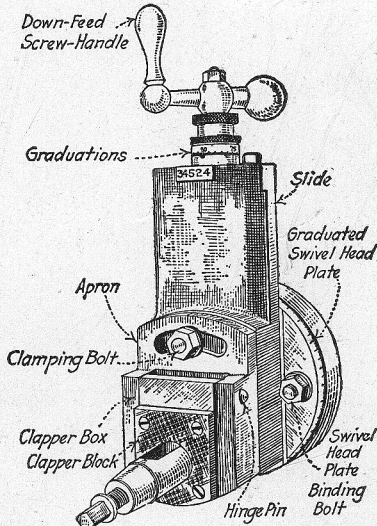

Fig. 1-15. A shaper tool head.
**Tool Head: Vertical and Angular Downfeed.** The toolhead (Fig. 1-15) is designed to hold the tool and also to be used in adjusting the tool for the desired cut. A graduated collar on the downfeed screw serves to indicate the movement of the slide (and tool) in thousandths of an inch. Moreover, the slide and the screw permit a